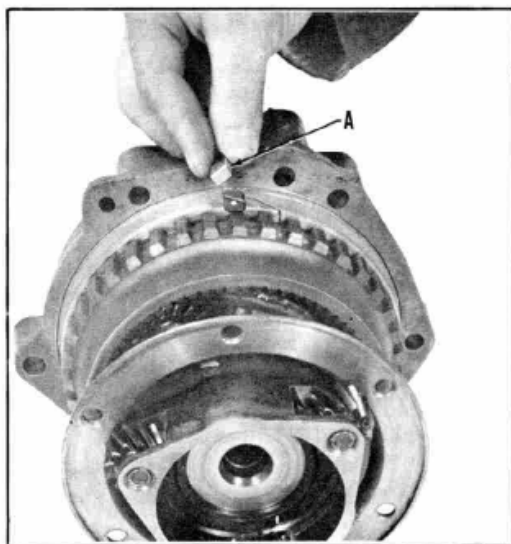

Figure 34
24. Install the stationary cone to case lock key, Figure 34. Use petrolatum to hold key in place.